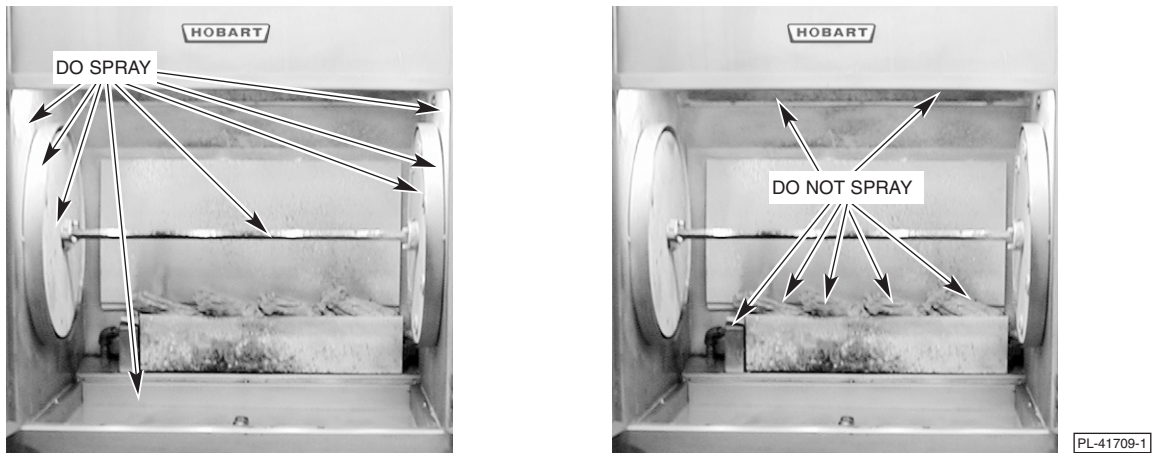

Fig. 12
- Spray noncooking components such as the interior walls, drum surfaces and wire rack with a nonstick product (Fig. 12).